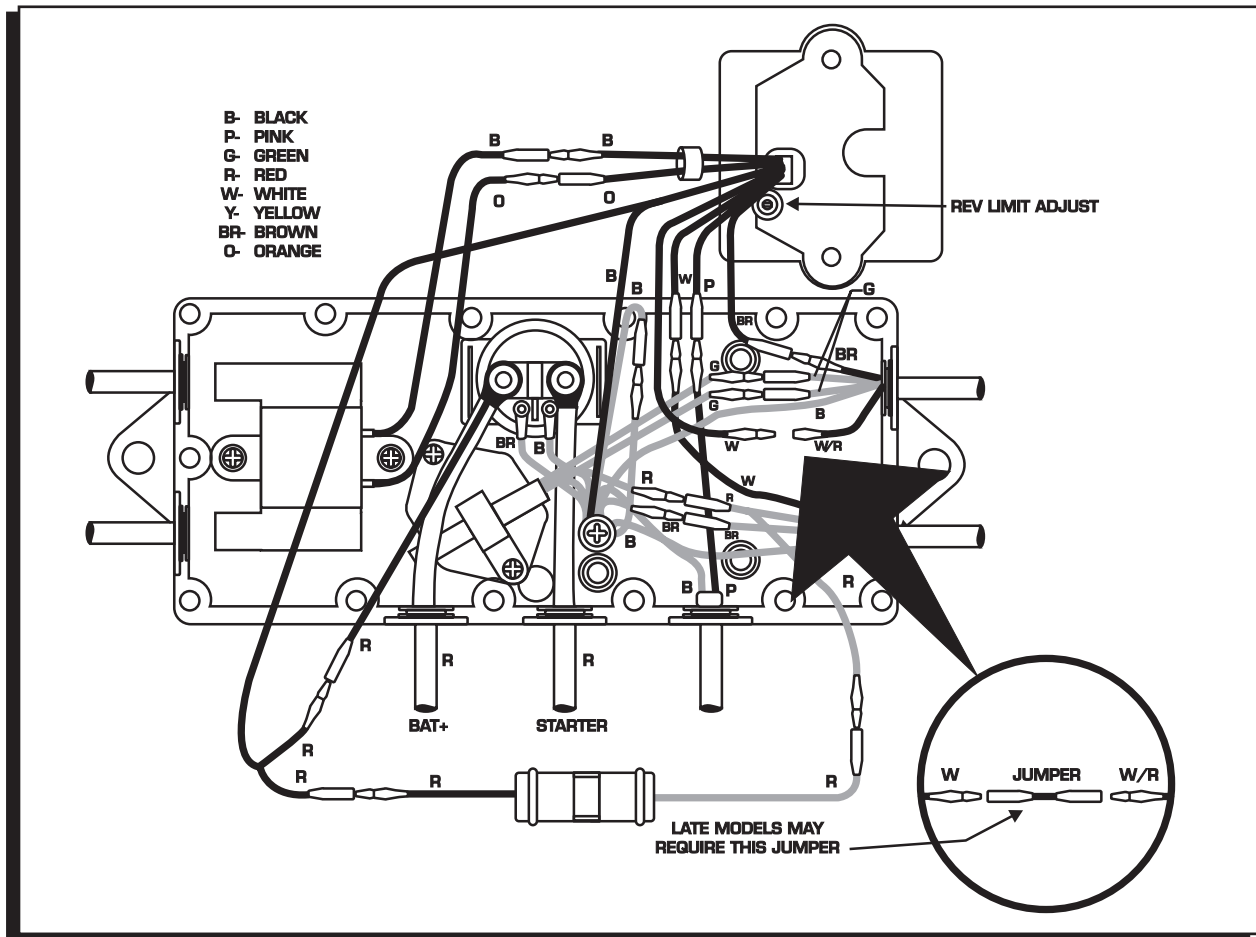

Figure 1 Wiring the Ignition Enhancer.
5. Connect the color coded wires of the Enhancer to the factory wiring harness. Refer to Figure 1 for wiring. Make sure all connections are tight and fully seated. The PINK wire coming from the Enhancer is for the Holeshoot/Overtemp feature and is explained in following sections.
6. The Enhancer Ignition will have an additional RED Wire that splits. This will connect just before the in-line fuse (See Fig. 1).
Note: If you are installing the Enhancer Ignition on a late model Yamaha Watercraft and find that the connector on the Enhancers White wire does not match the connector on the factory White/Red wire, then you need to install the supplied White jumper wire. This jumper will allow the connectors on the White and White/Red wires to match (See the insert in Figure1).
This installation provides you with the Overtemp feature only. Refer to Figure 1 for wiring.